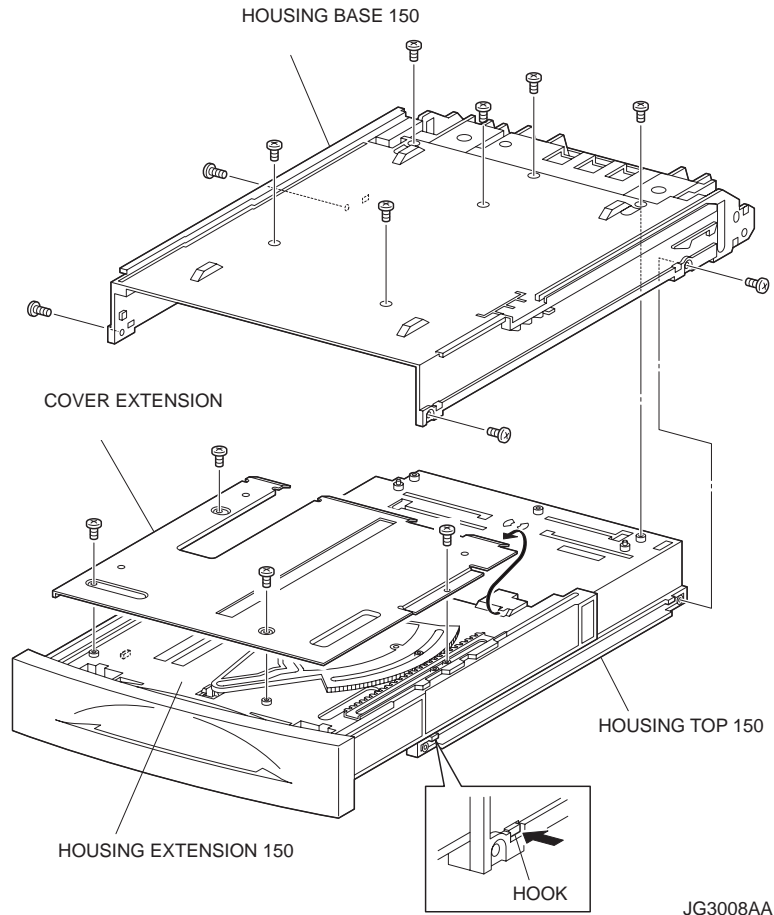

Figure 2. 150 Paper Cassette Base
- 8) Release the 4 hooks of the HOUSING TOP 150, and remove the HOUSING TOP 150 and HOUSING EXTENSION 150 (PL 2.1) from the HOUSING BASE 150 (Figure 2).